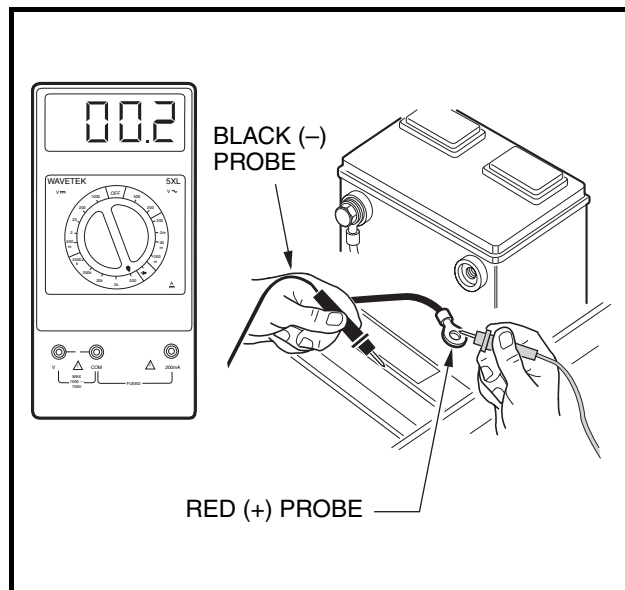

Figure 11-6 Battery Ground Cable Test
- 5.2. Set the multimeter to 200 (ohms). Place the red (+) probe on the unconnected end of the 6-gauge black cable, and place the black (–) probe on the vehicle frame (**Figure 11-6, Page 11-12**). The reading should be continuity. If the reading is incorrect, ensure that terminal connections are clean and tight. If the connections are good and the reading is incorrect, repair or replace the cable.